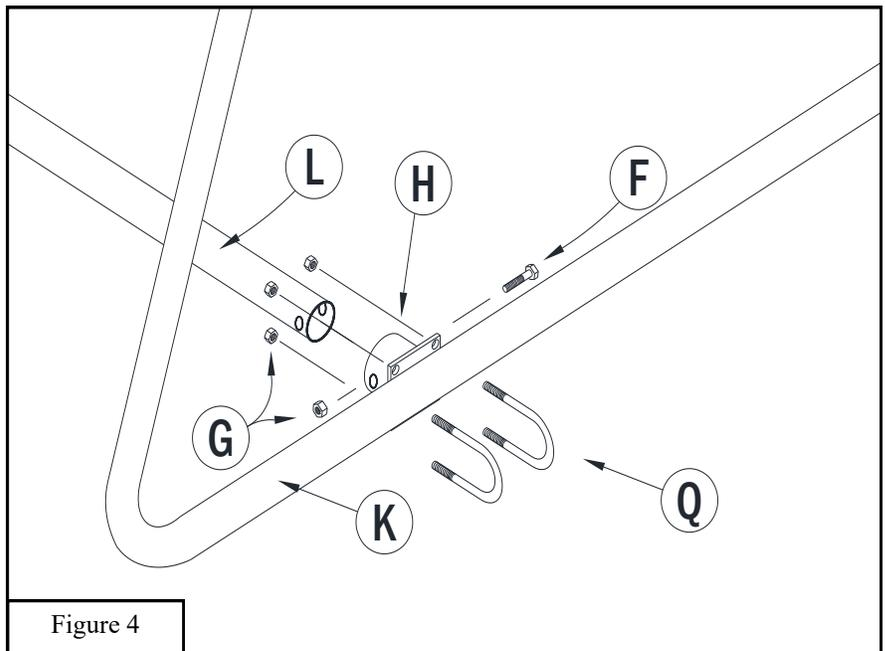

Figure 4
6. Connect a "T" Connector (H) to each end of the *Backstay Spreader Tube* (L) using the  $5/16"$  x  $2\ 3/4"$  *Hex Bolt* (F) and  $5/16"$  *Nylon Lock Nut* (G). See Figure 4.
7. Attach the assembly above to the bottom of the *Backstay* (K) using the  $5/16"$  *U-Bolts* (Q) and the  $5/16"$  *Locknuts* (G). See Figure 4.
8. Tighten the  $5/16"$  *U-Bolts* (Q) with the *Backstay Spreader Tube* (L) as far to the rear as possible unless you are leaving clearance to have the soccer goal be positioned under a football goalpost.
9. Install *Net Attachment Clips* (P) into the slots in each *Upright* (B), and each *Crossbar* (A). The *Net Attachment Clips* (P) slip into the slot and twist  $90^\circ$  into position with the opening to the outside of the goal. You have been provided enough *Net Attachment Clips* (P) to position one every 12"-14" and still have extras depending on the size of your goal.